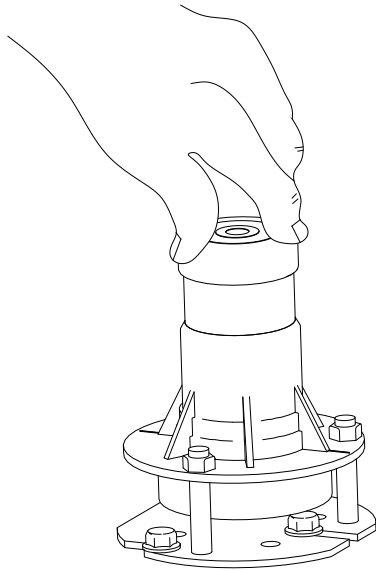

Figure 5-10
2. When the wear of slider exceeds 3mm [0.11in] (the measured distance $L < 37\text{mm}$ [1.46in]) , replace the slider. See Fig 5-10 , page 5-18.